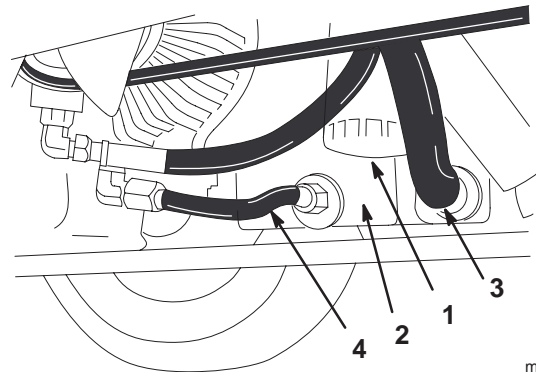

Figure 32
2. Clean the area around the hydraulic oil filter and remove the filter from the bottom of the filter housing. Use a bottom type filter wrench (Fig. 32).
3. Disconnect the tube assembly and hose assembly from the reservoir and allow the oil to flow into a drain pan (Fig. 32).
4. Install the new hydraulic filter onto the bottom of the filter housing (Fig. 32).
5. Install the tube assembly and hose assembly to the reservoir (Fig. 32).
1. Remove the hydraulic oil filter from the mounting head. Use a bottom type filter wrench (Fig. 32). Dispose of the filter properly.